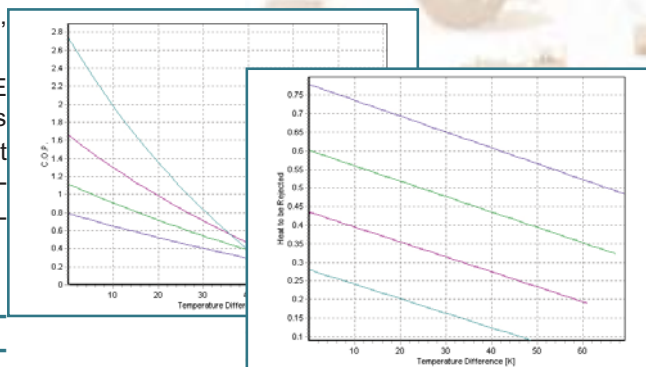

Figure 5.4.4 $COP(\Delta T)$ and $Q_{hot}(\Delta T)$ at $I=(1.0,0.8,0.6,0.4) I_{max}$
- ◆ $Q_{hot}(\Delta T)$. The heat Q_{hot} to be rejected from the TE sub-mount hot side versus its temperature difference ΔT at the electric current $I=(1, 0.8, 0.6, 0.4)I_{max}$. The plot assists in estimating the heat to be sunk from the sub-mount at the needed I and ΔT . (Fig. 5.4.4).